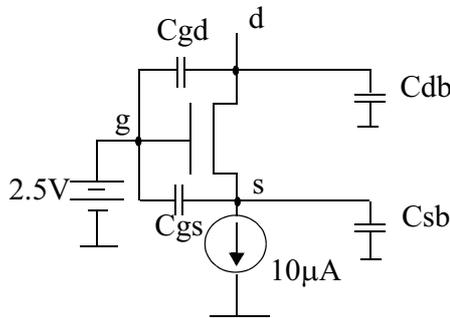

Figure 0.16 Device going through different operation regions over time
19. [M, None, 3.3.3] For the NMOS transistor in Figure 0.16, **sketch the voltages** at the source and at the drain as a function of time. Initially, both source and drain are at +2.5 volts. Note that the drain is open circuited. The $10 \mu\text{A}$ current source is turned on at $t=0$. Device parameters: $W/L_{\text{eff}} = 125\mu/0.25\mu$; $\mu C_{\text{ox}} = 100 \mu\text{A}/\text{V}^2$; $C_{\text{ox}} = 6\text{fF}/\mu^2$; $C_{\text{OL}}(\text{per width}) = 0.3 \text{fF}/\mu$; $C_{\text{sb}} = 100 \text{fF}$; $C_{\text{db}} = 100\text{fF}$; $V_{\text{DSAT}} = 1\text{V}$.